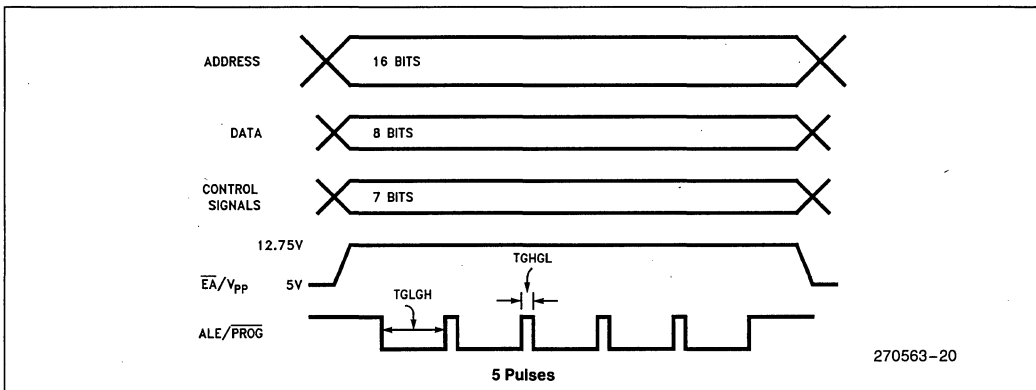

Figure 11. Programming Signal's Waveforms
13. Figure 11 changed to show 5 programming pulses rather than 25.